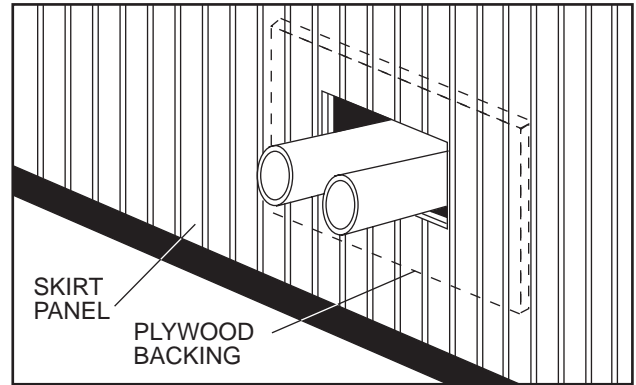

FIGURE 4. PLYWOOD REINFORCING.
9. Cut clearance holes in the skirt panel(s) as required to accommodate the piping between the spa and the auxiliary heater. Reinforce cut panel(s) with 3/8" thick plywood sheet(s). Refer to Figure 4.